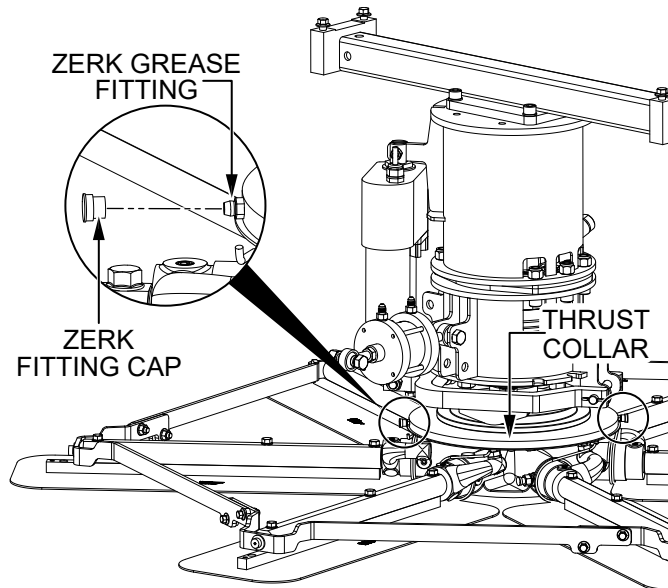

Figure 43. Thrust Collar Lubrication
1. Locate the **Zerk grease fittings (2)** on either thrust collar (Figure 43). Remove the **Zerk fitting caps** and set them aside.